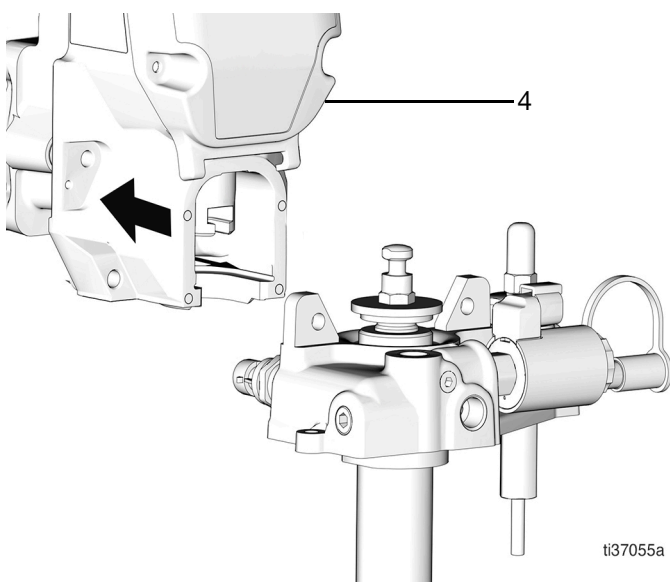

FIG. 34
13. Pull up on the lower section to separate from the gear head (4) (FIG. 34).